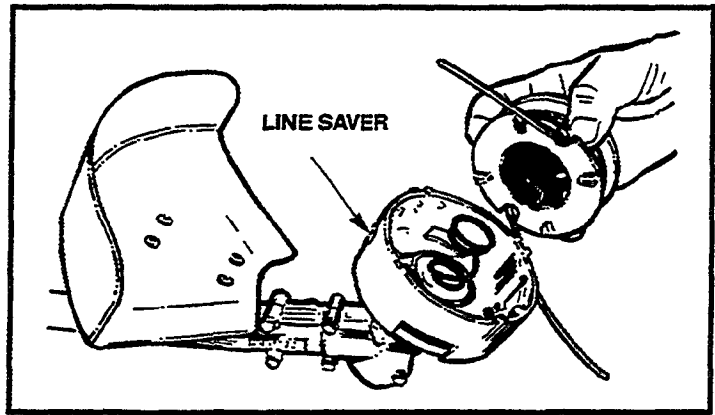

Figure 19
- Once the line is on the spool, hold spool as shown (Figure 19) and insert lines in their respective linesavers and place spool back into the rotary head.